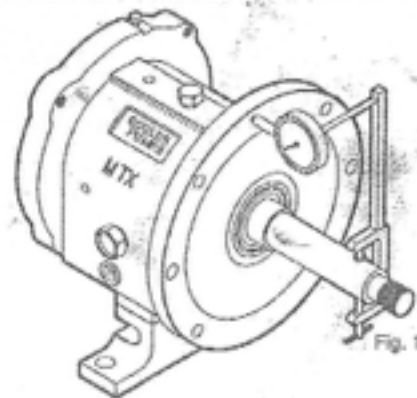

Fig. 141
4. Check frame face run out. Rotate shaft so indicator rides along the fl for 360 degrees. If total indicator reading is greater than 0.004in. ( . 025 mm) disassemble and determine cause (Fig. 141).